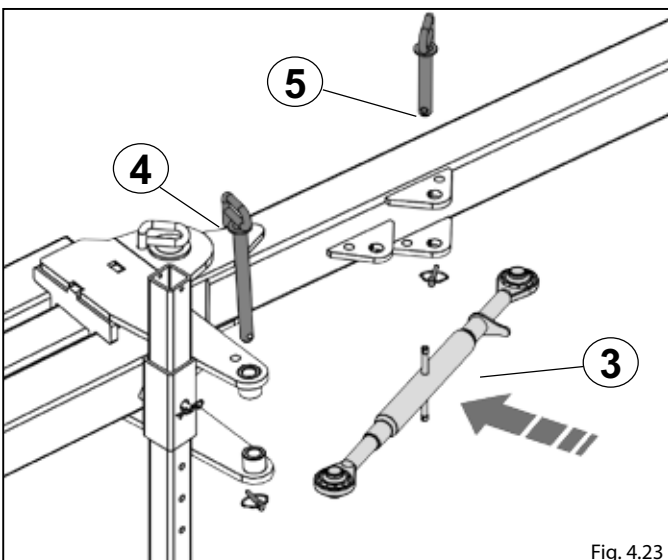

Fig. 4.23
- Mount the tie rod **3** fixing it with pins **4 - 5** (Fig.4.23).